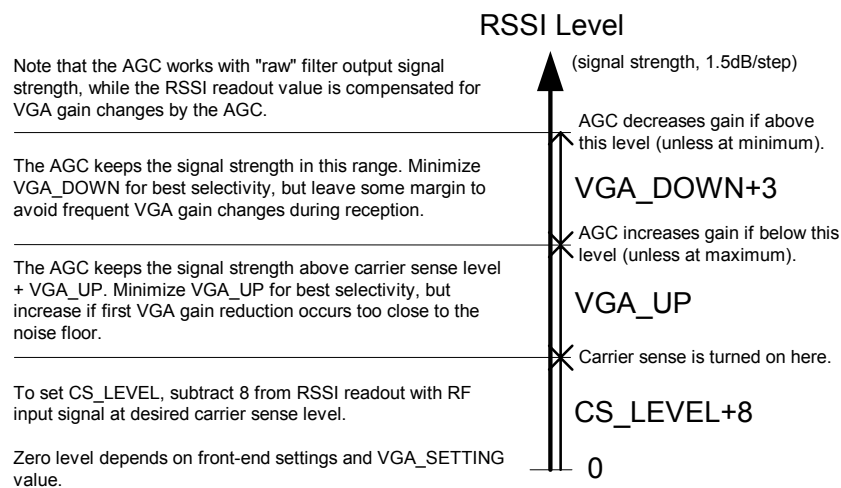

Figure 20. Relationship between RSSI, carrier sense level, and AGC settings CS_LEVEL, VGA_UP and VGA_DOWN
A digital RSSI is used to measure the signal strength after the ADC. The `CS_LEVEL[4:0]` in the `VGA4` register is used to set the nominal operating point of the gain control (and also the carrier sense level). Further explanation can be found in Figure 20.
5. If desired, adjust the VGA_UP and VGA_DOWN settings according to the explanation in Figure 20.
CS_LEVEL[4:0] sets the threshold for this specific *VGA_SETTING[4:0]* value. If the *VGA_SETTING[4:0]* is changed, the *CS_LEVEL[4:0]* must be changed accordingly to maintain the same absolute carrier sense threshold. See Figure 20 for an explanation of the relationship between RSSI, AGC and carrier sense settings.